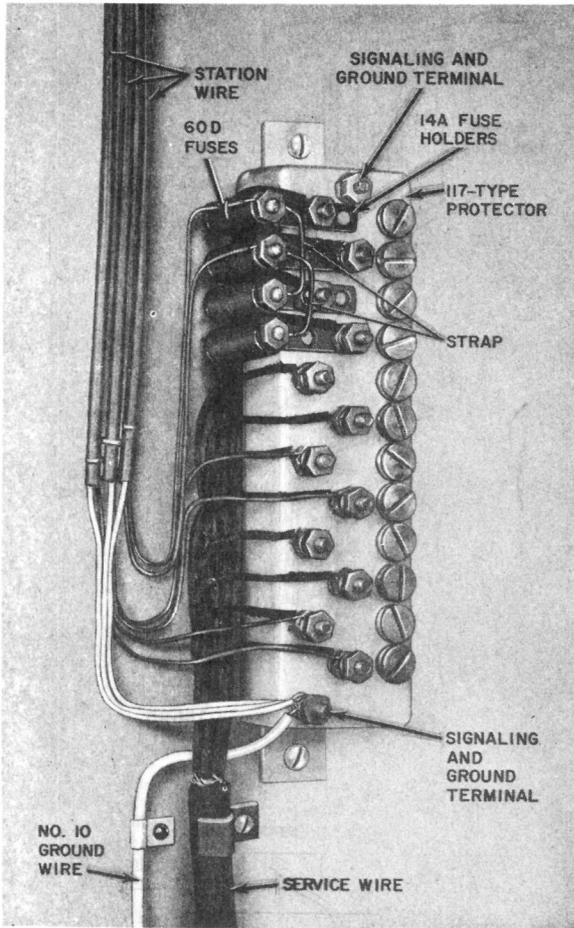

**Fig. 71—14A Fuse Holder**
**10.04** The 60A and 60D fuses (Fig. 69) are rated 0.350 ampere and differ only in arrangement for mounting. The 60A fuse has a spade terminal and is used with the 94A protector mounting (Fig. 70). The 60D fuse is mounted in a 14A fuse holder (Fig. 71) or 1094A protector (Fig. 72).